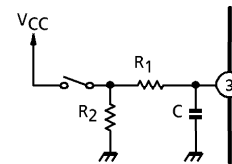

Fig.1 Mode switch circuit reducing a pop sound
1. MODE SW (pin③)
- It is necessary to connect an external pull-down resistor with the terminal of MODE SW (pin③), in case that this IC mode doesn't operate normally due to external noise etc.
It is advised to connect R1, R2 and C with the terminal of MODE SW (pin③), to reduce a pop sound is switchover between single IF mode and dual IF mode (see Fig.1).